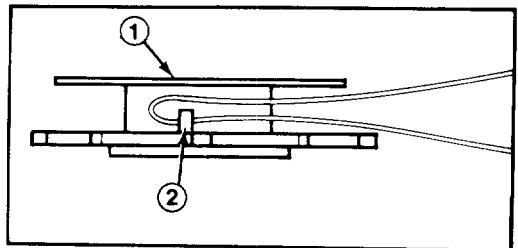

Figure 12
B. Insert end of line into spool line retainer. Pull line thru so equal amounts of line are on each end (Fig. 12).